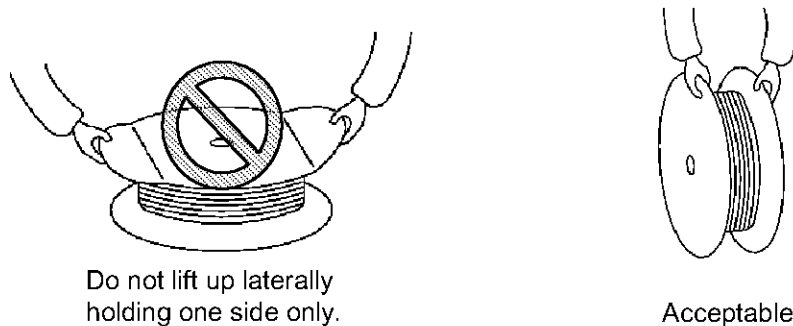

Fig.4
- (1) Avoid leaving or carrying the contact reel in open area without proper wrapping material.
- (2) Do not lift up carry the contact reel by gripping one side of the reel, this may result in damage to the reel and contacts before using. (See Fig.4)